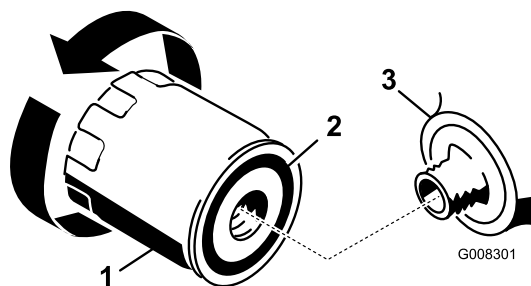

Figure 25
2. Remove the old filter and wipe off the adapter gasket surface (Figure 25).
3. Apply a thin coat of new engine oil to the rubber gasket on the new filter (Figure 25).
5. Tighten the filter an additional 1/2 to 3/4 turn (Figure 25).